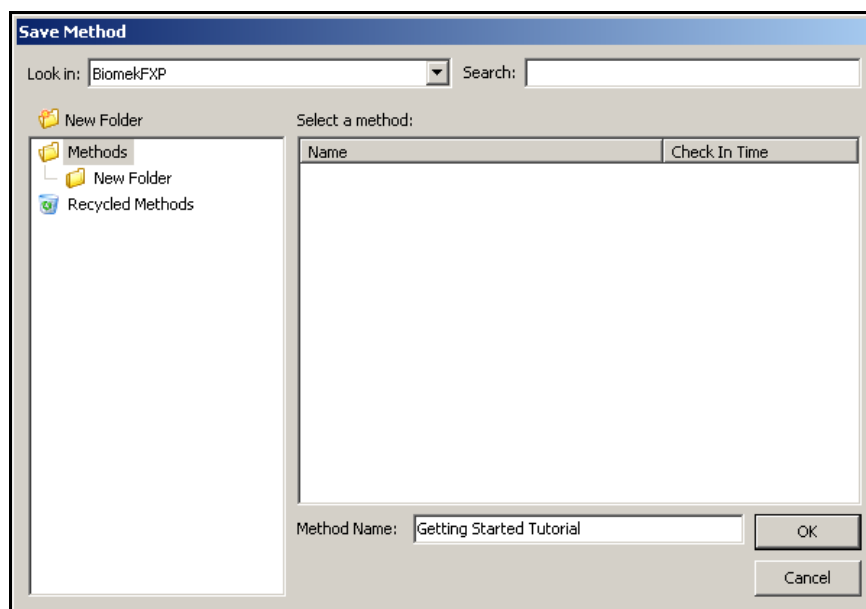

Figure 1-16. Save Method
2. In **Method Name**, type the file name under which your method will be saved. For this chapter, type **Getting Started Tutorial** (Figure 1-16).